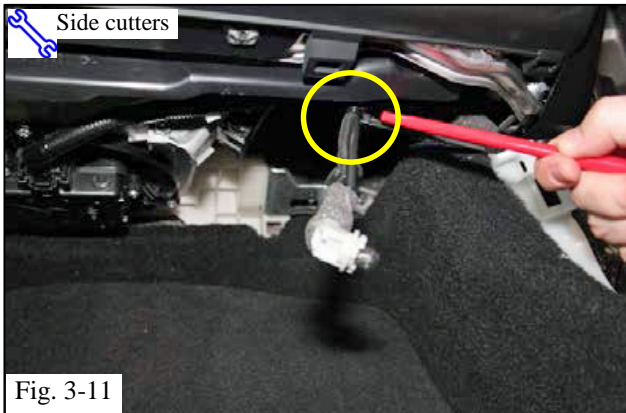

Fig. 3-11
- (n) Tie the blue wire to the foot lamp wire harness with two wire ties (Fig. 3-11 and Fig. 3-12).